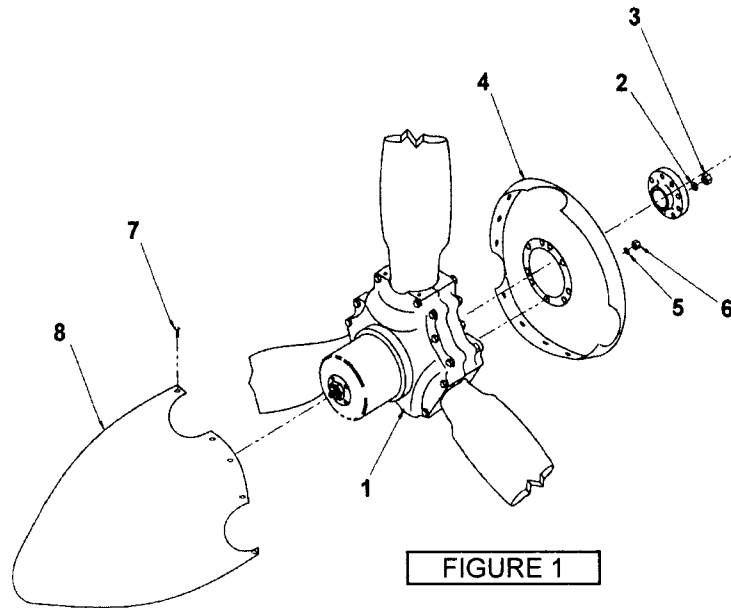

FIGURE 1
2. Install new propeller and spinner in accordance with Hartzell Owner's Manual number 115() (latest revision). Follow installation instructions for "Installation of "F" Flange Propellers" in Manual 115(). Also reference the Cessna service manual appropriate to the aircraft being modified, removal and installation Section 12. Also reference Figure 1 on page 5 of these instructions.